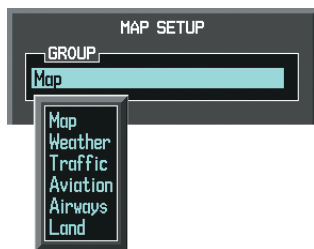

Figure 6-108 Navigation Map Page Setup Menu
- 4) Turn the small **FMS** Knob to select the Traffic Group and press the **ENT** Key (Figure 6-108).